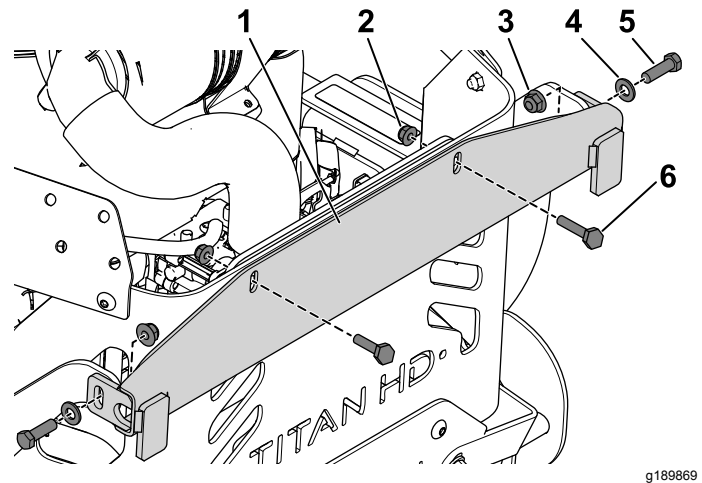

Figure 16
1. Loosely install the 2 bolts (3/8 x 1-1/4 inches), washers, and flange nuts to hold the cross brace on the support bracket (Figure 16).
2. Loosely install the bolt (5/16 x 1-1/4 inches) and flange nut (5/16 inch) to hold the cross brace to the rear guard (Figure 16).